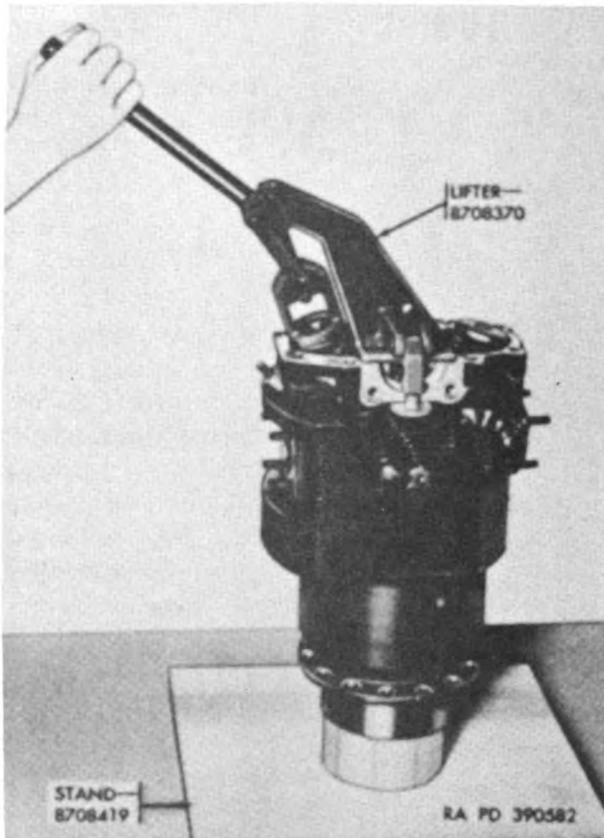

Figure 78. Removing or installing valves.
- (1) Place cylinder assembly (C) on stand 8708419 (fig. 11) and clamp valve spring lifter 8708370 (fig. 11) over exhaust valve upper spring retainer as shown in figure 78.
- (2) Depress lifter handle to compress springs and remove two spring retainer locks (P) from groove in stem of exhaust valve. Tap exhaust valve spring upper retainer (AA), if necessary, to free locks.
- (3) Release lifter handle slowly and remove lifter from cylinder.
- (4) Remove exhaust valve spring upper retainer (AA), valve outer spring (BB), valve intermediate spring (CC), valve inner spring (DD), and exhaust